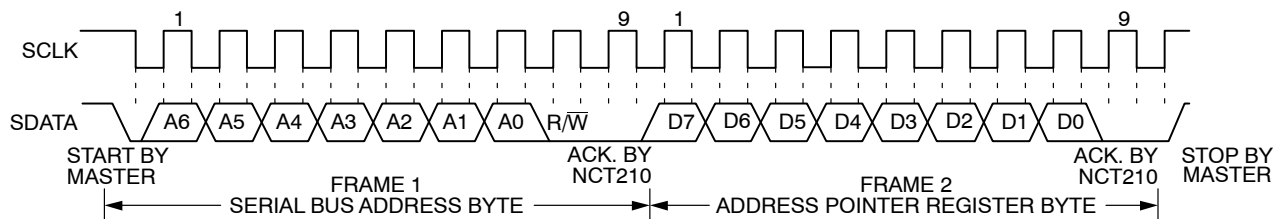

Figure 14. Writing to the Address Pointer Register Only
before, but only the data byte containing the register read address is sent, because data is not to be written to the register. This is shown in Figure 14.
2. If the address pointer register is known to be already at the desired address, data can be read from the corresponding data register without first writing to the address pointer register, so Figure 14 can be omitted.